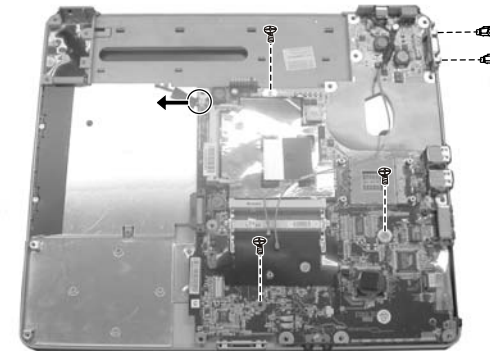

Figure 2-22 Remove the system board
10. Remove the three screws and two hex nuts that secure the system board. And disconnect one cord. (Figure 2-22)